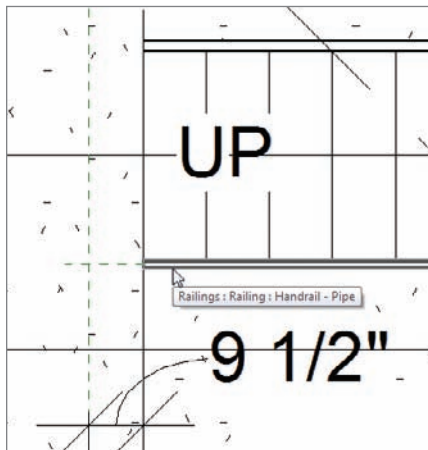

FIGURE 10.16 Selecting the railing, not the stairs
1. In plan, select the bottom railing, as shown in Figure 10.16. Make sure you are not selecting the stairs.